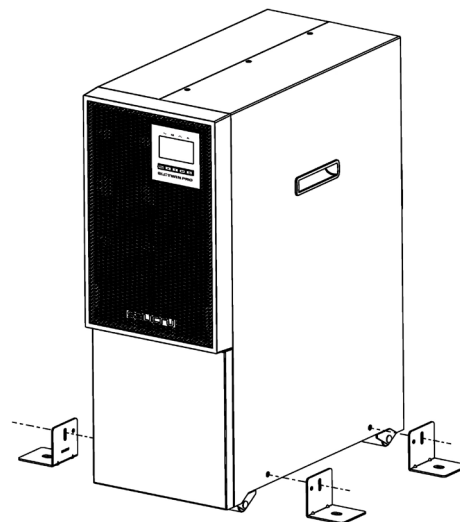

Fig. 22. Installation of the stabiliser supports.
2. Install the supports to improve stability, as indicated in Fig. 22.